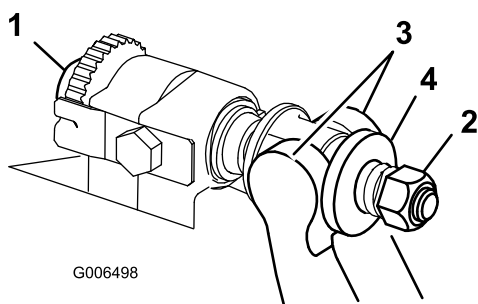

Figure 32
- Turn bedbar adjuster screws, counterclockwise, to back bedknife away from reel (Figure 32).
- Back out the spring tension nut, until the washer is no longer tensioned against the bedbar (Figure 32).